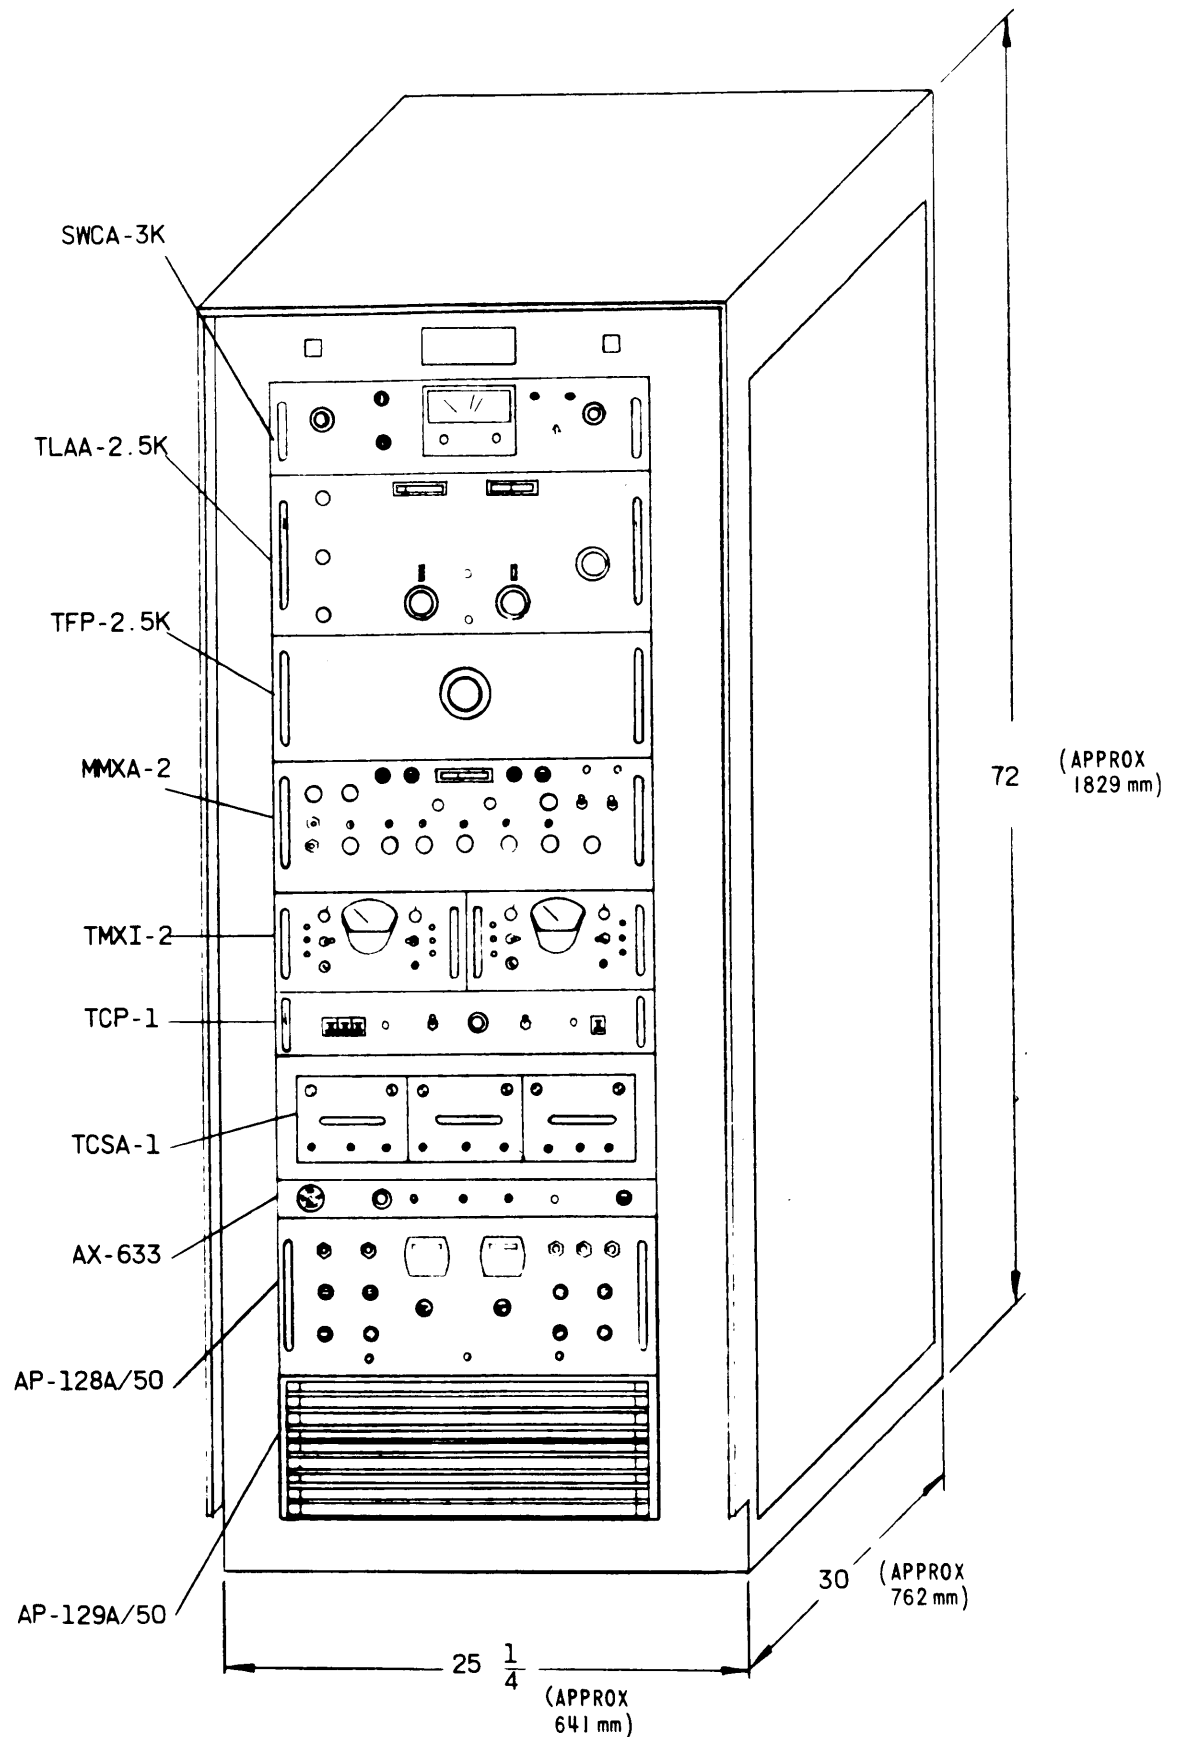

Figure 1-1. Front View Model GPTA-2.5JD, General Purpose Transmitter
Radio Transmitter, Model GPTA-2.5JD/50 (figure 1-1) is a general purpose, self-tunable transmitter system providing 2500 watts peak envelope power (PEP) throughout the 2 to 29.9999 megacycle (MHz) frequency range.
The transmitter major components are listed in table 1-1. See figure 1-1 for physical component mounting locations and paragraph 1-3 for component descriptions.
- b. Install the transmitter components into the rack as shown in figure 1-1.